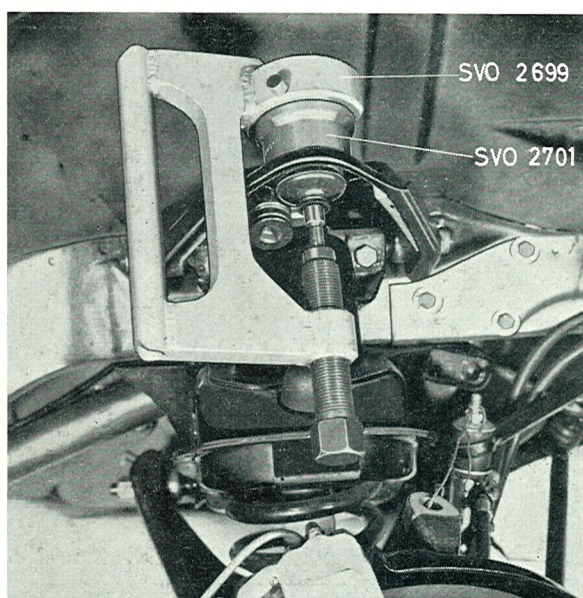

Fig. 6-19. Removing the ball joint, upper wishbone
3. Slacken but do not remove the nut for the upper ball joint. Knock with a hammer on the stub axle round the ball joint pin until it loosens from the axle. Remove the nut and suspend the upper end of the axle with a wire to avoid straining the brake hoses. See Fig. 6-19.
4. Loosen the nuts for the wishbone shaft a 1/2 turn. Lift up the wishbone slightly and press out the ball joint with press tool SVO 2699 and sleeve SVO 2701, see Fig. 6-19.